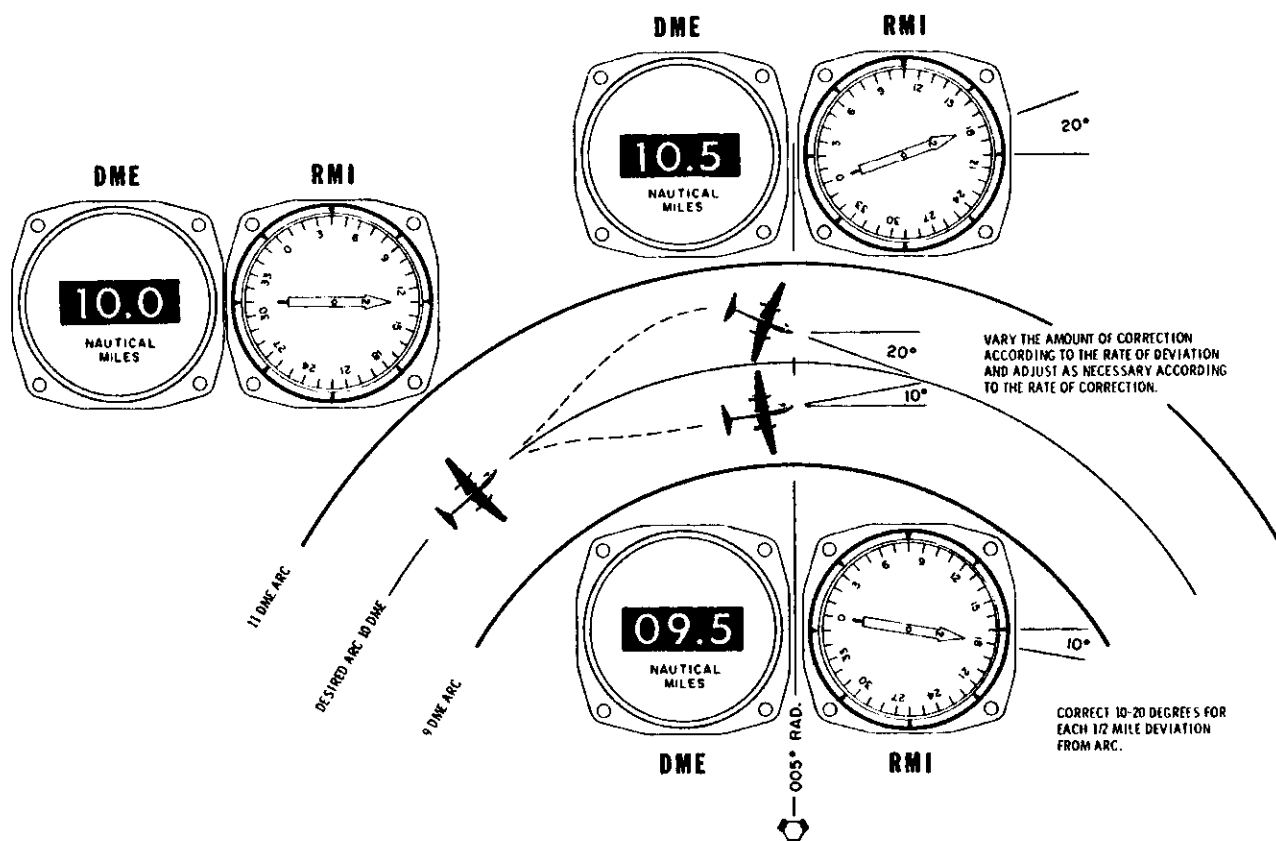

FIGURE 2. USING DME AND RMI TO MAINTAIN ARC
5. MAINTAINING THE DME ARC. In flying the DME arc (Figure 2), it is important that the pilot keep a continuous mental picture of his position relative to the facility. Since the drift correction angle is constantly changing throughout the arc, wind orientation is important. In some cases, wind can be used in returning to the desired track. Arcs of large radii are easier to fly because of their "flat" curve. High groundspeeds require more pilot attention because of the higher rate of deviation and correction. Maintaining the arc is simplified by keeping slightly inside the curve. Thus, the arc is always turning toward the aircraft and interception may be accomplished by holding a straight course. If the aircraft is outside the curve, the arc is "turning away" and a greater correction is required.
- (3) If a crosswind is blowing the aircraft away from the facility, establish the reference ahead of the wing tip. If a crosswind is blowing the aircraft toward the facility, establish the reference behind the wing tip.
- (4) As a guide in making range corrections, change the relative bearing  $10^{\circ}$  to  $20^{\circ}$  for each  $1/2$  mile deviation from the desired arc. For example, under no-wind conditions, if the aircraft is  $1/2$  mile outside the arc and the bearing pointer is on the wing tip reference, turn the aircraft  $20^{\circ}$  toward the facility to return to the arc (Figure 2).